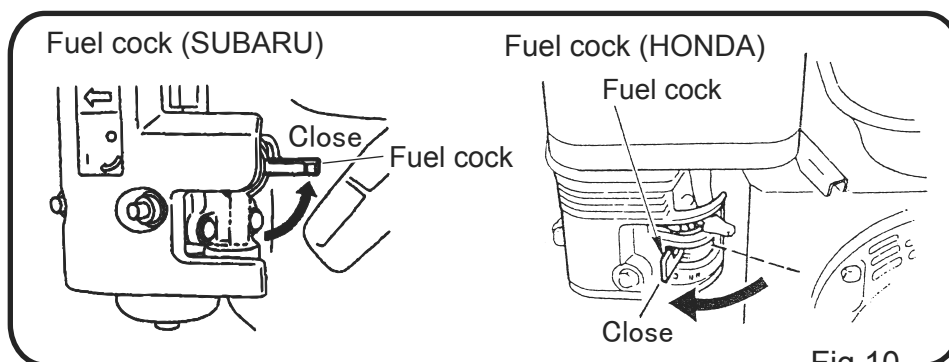

Fig.10
- 9-3 Close the lever of the fuel cock. (Fig. 10)